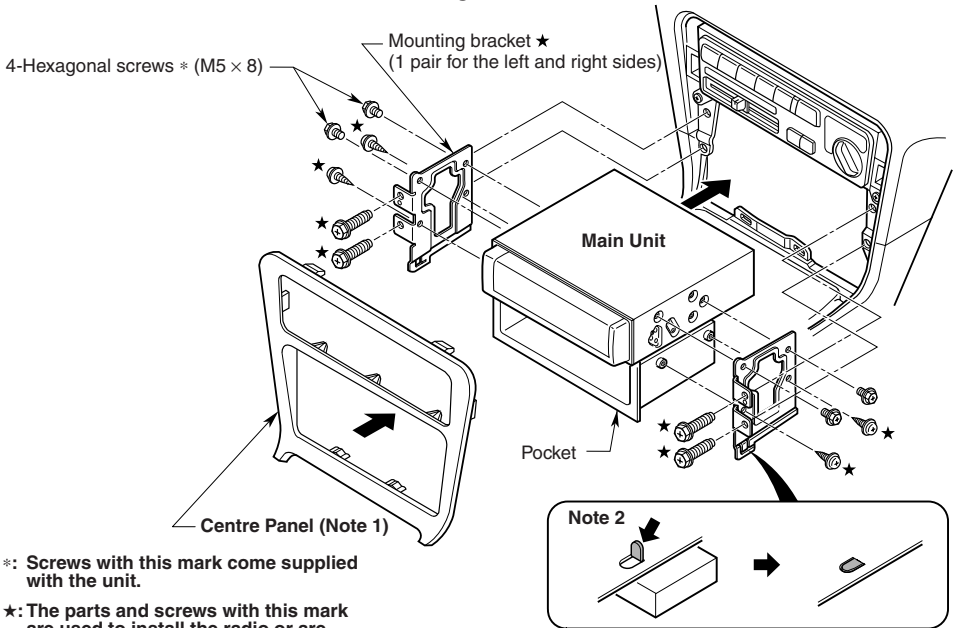

Figure 8
If the vehicle is equipped with a factory-installed radio, install the main unit with the parts and screws marked (\*). (Figure 8)
2. Secure the mounting brackets to the chassis as shown in Figure 8. Holes are pre-tapped for TOYOTA and NISSAN vehicles; modification, such as drilling new holes, of the mounting brackets may be required for other models.